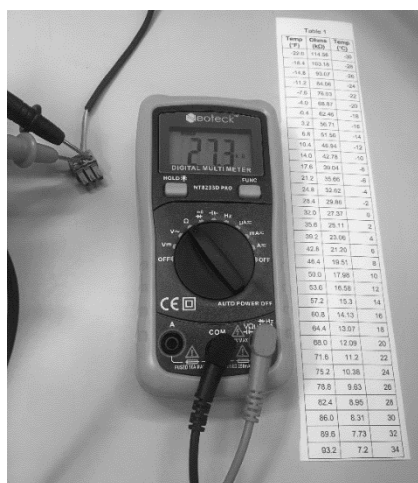

Figure 1
- Use a multimeter and set it to the resistance ( $\Omega$ ) setting. See Figure 1.
- Disconnect the thermistor from the controller, then connect the multimeter to the thermistor. See Figure 1.